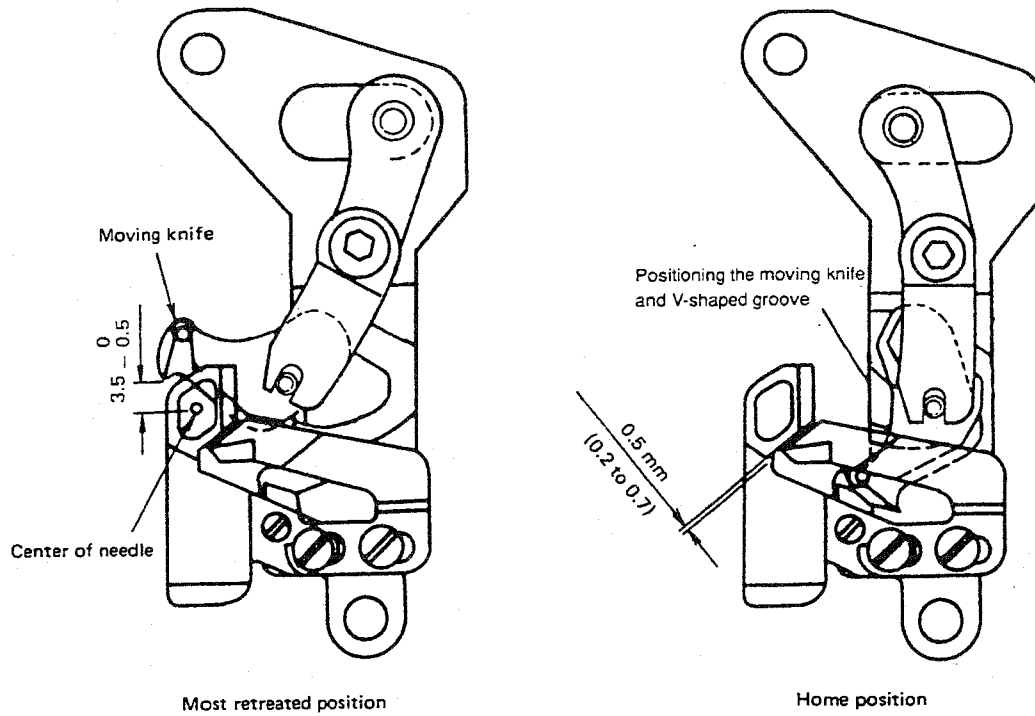
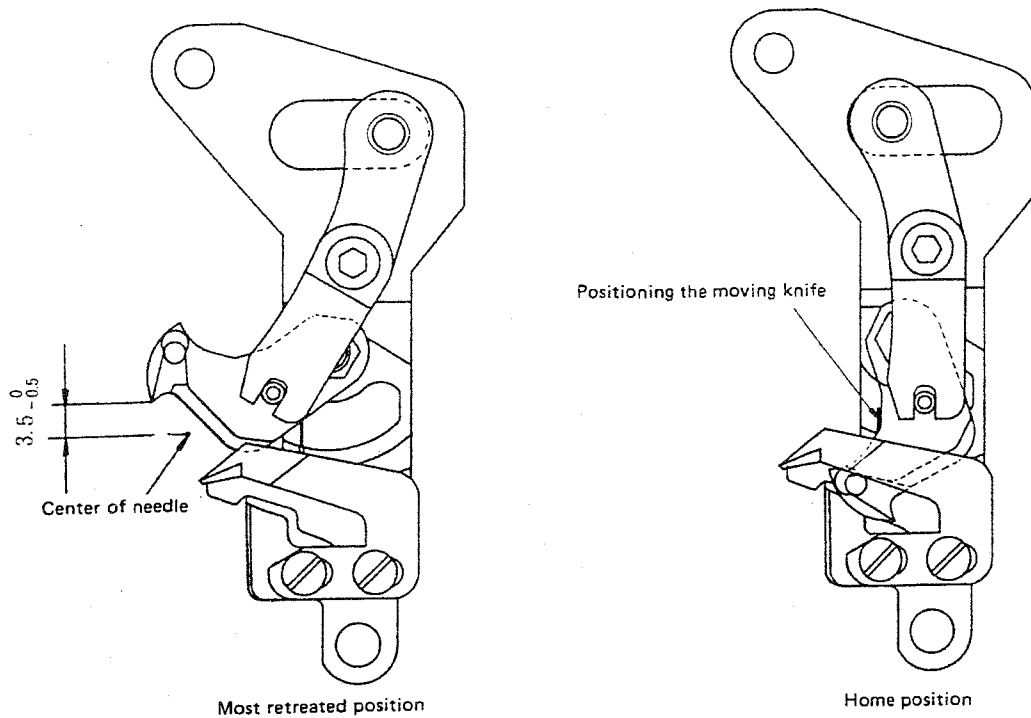
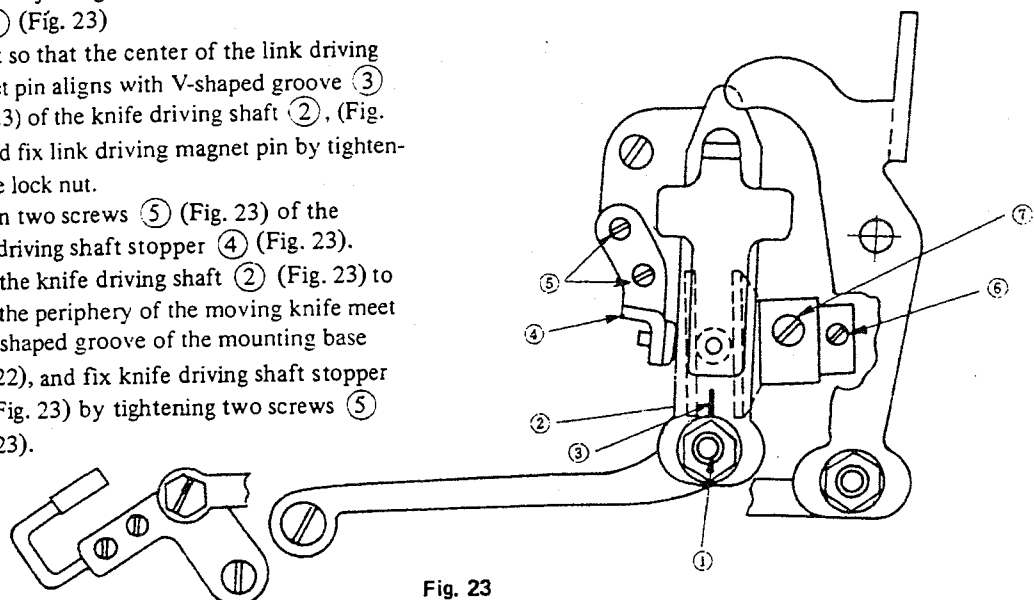

Fig. 22
Fig. 22-1
Fig. 23
The moving knife should be positioned so that the front end of the moving knife is 3 mm (0.118") to 3.5 mm (0.138") behind the center of the needle as illustrated in Fig. 22 (for the H type machine, see Fig. 22-1) when the moving knife travels to its stroke end with the pitch set to 0 (zero). If the retreat of the moving knife is not enough, the knife may fail to catch the needle or bobbin thread at the time of thread trimming. On the contrary, if the moving knife retreats excessively, the moving knife may hit the feed dog. To avoid these problems, be sure to accurately position the moving knife.
The position of the moving knife is adjusted by changing the lateral position of link driving magnet pin ① (Fig. 23) while the machine is at rest.
- ① Loosen the lock nut of link driving magnet pin ① (Fig. 23)
- ② Move the link driving magnet pin to the right or left to make the V-shaped groove (Fig. 22) meet the periphery of the moving knife, referring to the home position shown in Fig. 22.
- ③ Retighten the lock nut of the link driving magnet pin when the proper position of the moving knife has been obtained. As the link driving magnet pin is moved to the right, the retreat of the moving knife increases. As it is moved to the left, the retreat of the moving knife decreases.
- ① Loosen adjusting nut of link driving magnet pin ① (Fig. 23)
- ② Adjust so that the center of the link driving magnet pin aligns with V-shaped groove ③ (Fig. 23) of the knife driving shaft ② (Fig. 23) and fix link driving magnet pin by tightening the lock nut.
- ③ Loosen two screws ⑤ (Fig. 23) of the knife driving shaft stopper ④ (Fig. 23).
- ④ Move the knife driving shaft ② (Fig. 23) to make the periphery of the moving knife meet the V-shaped groove of the mounting base (Fig. 22), and fix knife driving shaft stopper ④ (Fig. 23) by tightening two screws ⑤ (Fig. 23).
- ⑤ Loosen the two screws of thread trimmer cam ⑦ (Fig. 23) and cam collar ⑥ (Fig. 23).
- ⑦ Manually turn the cam until screw No. 2 ⑦ (Fig. 23) faces toward you. Then press the thread take-up picker to the right.
- ⑧ Move the cam to the right or left to engage the cam with the cam roller.
- ⑨ With the cam engaged with the cam roller, turn the cam in the direction of the arrow (toward you) until it stops, while lightly pulling the cam to the right.
- ⑩ Tighten screw No. 2 ⑦ (Fig. 23) of the cam for preliminary installation.
- ⑪ Then confirm:
- ⑫ Securely tighten the two screws of the cam.
- ⑬ Press the thrust collar against the cam and fix it by tightening the screw.